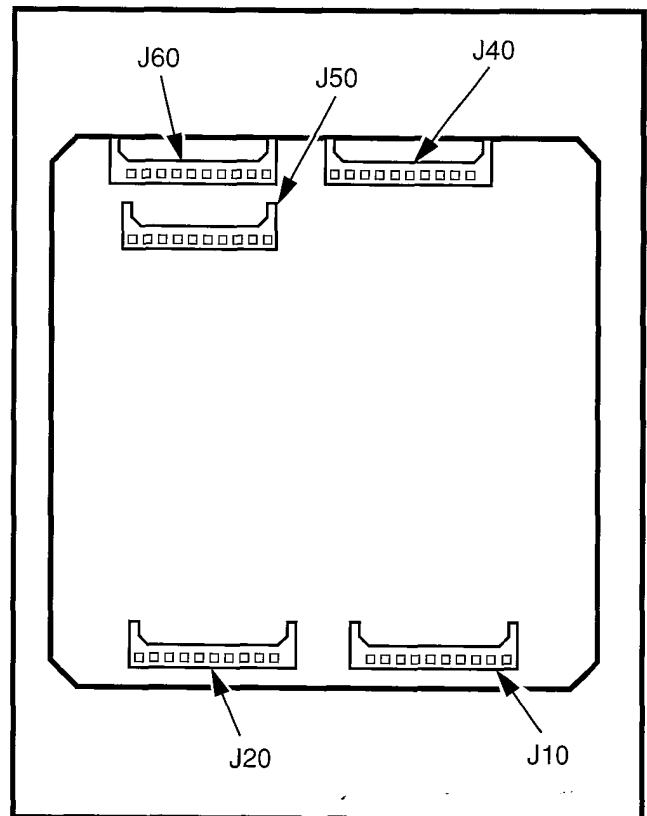

FIGURE 6-5—OFF-HOOK CALL ANNOUNCE UNIT (EOCU) INSTALLATION
- 2) Mate EOCU connectors **J10**, **J20**, **J40**, **J50**, and **J60** with PEKU connectors **P10**, **P20**, **P40**, **P50**, and **P60** (refer to Figure 6-5).